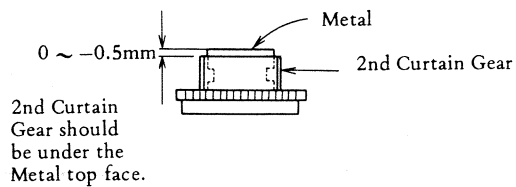

Fig. 13
- 2) The difference between the top of the 2nd Curtain Gear (19-9863) and the top of the bearing should be: $\pm 0.0 - 0.05\text{mm}$ See Fig. 13.